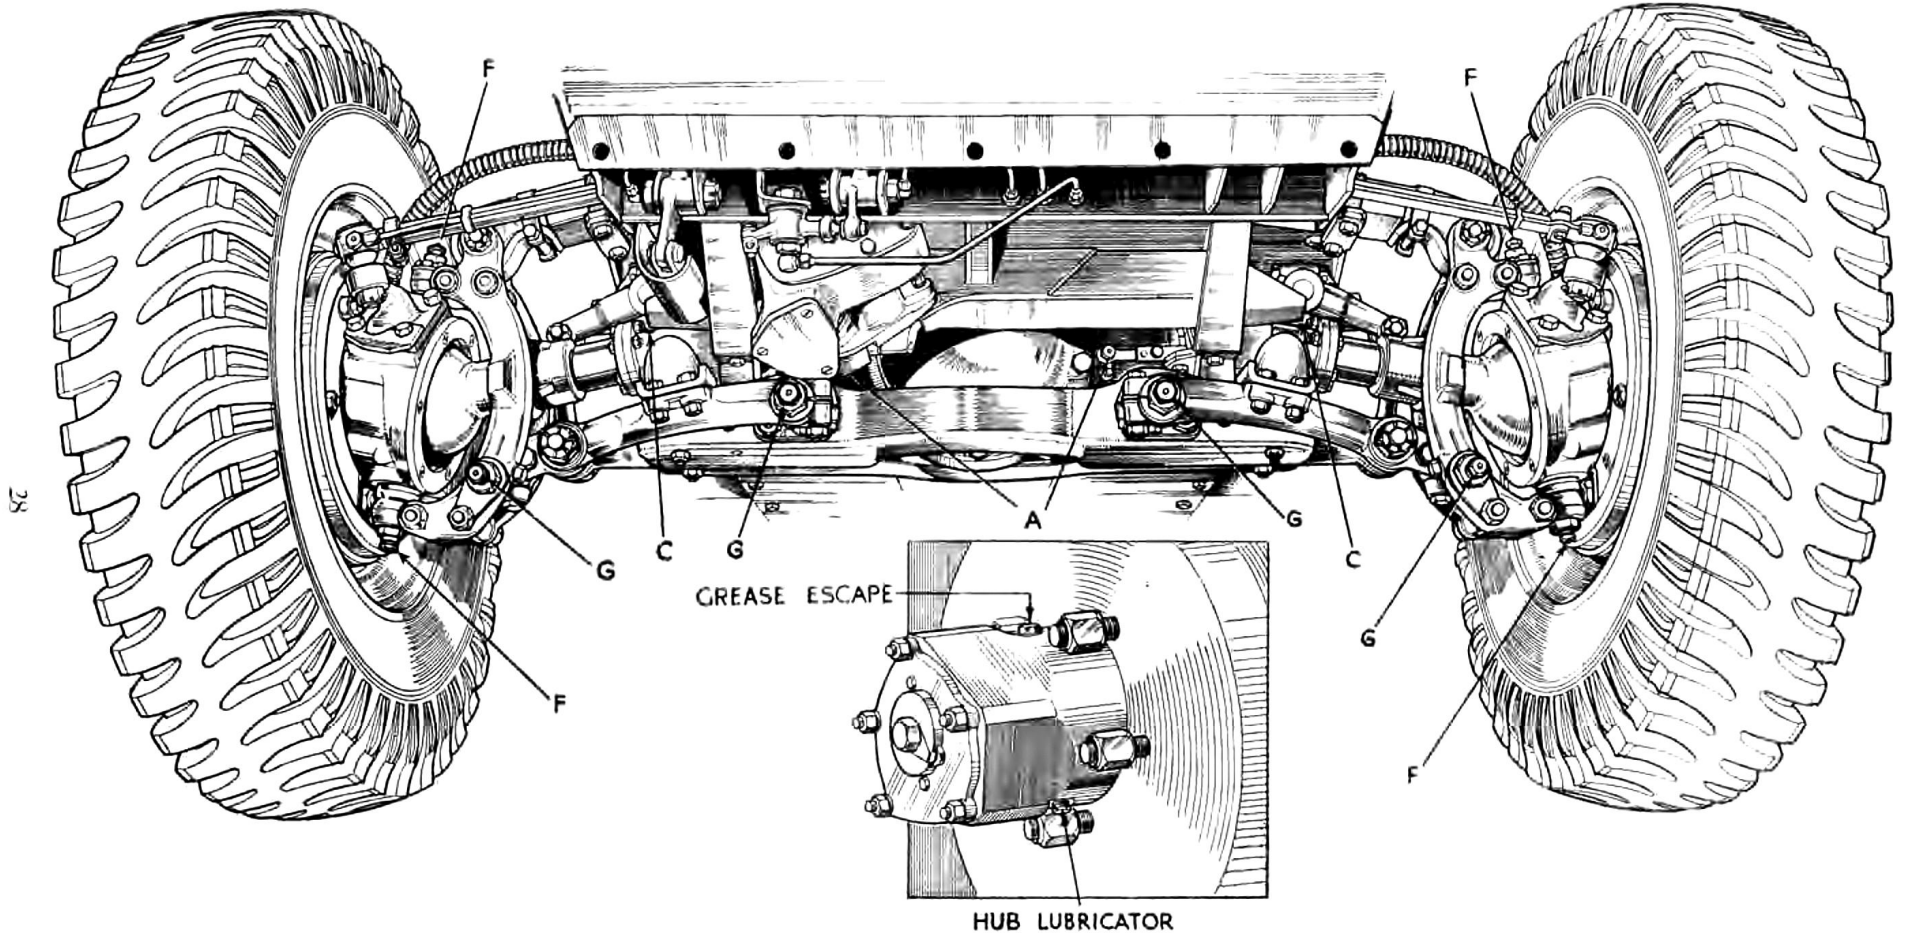

Fig. 18. -FRONT TRANSMISSION, FRONT VIEW.
**Note :** The hubs must not be over filled with lubricant. To guard against this when filling them, jack up each wheel in turn and remove the grease escape plug. (Fig. 18.) Rotate the wheel until this opening is uppermost, and fill the hub by means of the lubricating gun until lubricant appears at the escape hole. Replace the plug securely.
Spring eye bolts (two points) and bottom link bushes (eight points). (G) (Figs. 18 and 19.)
3. Swivel pin bearings (four lubricators). (F, Fig. 18).